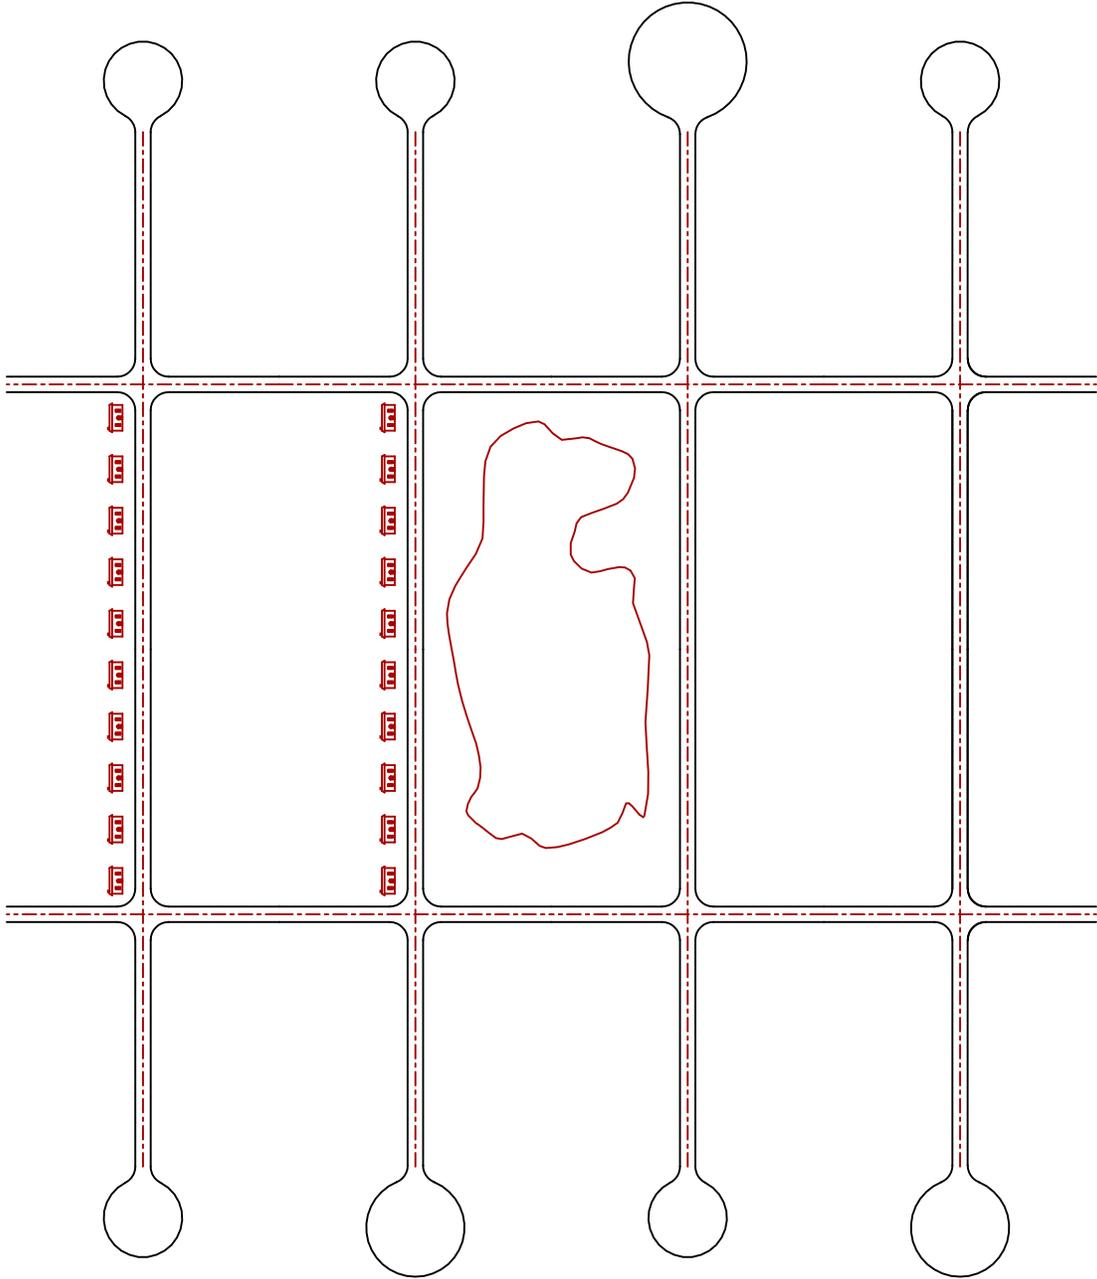

FIGURE 1-LAB 9
2. Use **CELL MATRIX** command or **CM=** number of rows, number of columns, distance between rows and distance between columns to place the houses on the streets as shown in Figure 1-lab 9 (2 rows, 10 columns). You need to determine the distance needed between each row and column. Place the cell matrix origin 25 feet from the edge of the street.
Lab 10 is a continuation of work with cells (Lab 9). It is also designed to give the student practice in using patterning, active points, and line terminators. Refer to Lab 10 Figures 1, 2, and 3 for the exercise illustrations.
2. Create a cell representing a railroad track called RR. (This and the following cells are shown in Figure 1-Lab 10)